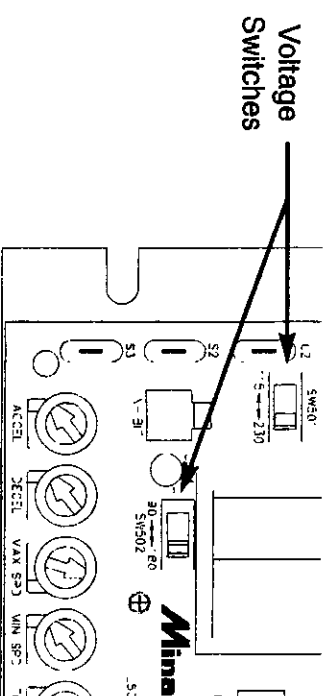

Figure 14. Voltage Switches
- Set the voltage switch SW501 to either 115V or 230V to match the AC line voltage. Set the voltage switch SW502 to either 90V or 180V to match the maximum armature voltage (see Figure 14).